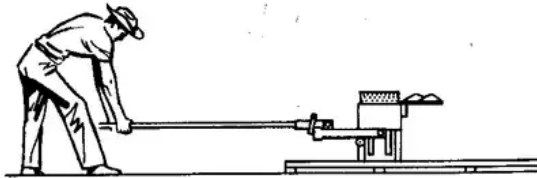

Fig. 12 - Ejecting the Block.
(12) Depress the lever steadily to eject the block (see Fig. 12). If the block is cracked or deformed, it